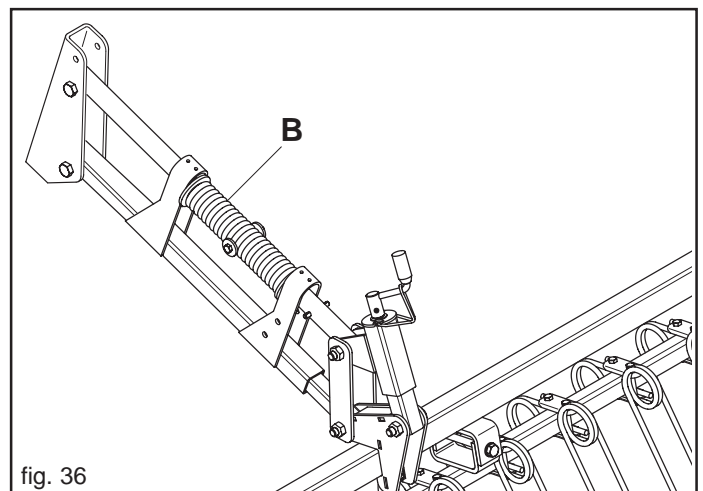

fig. 36
The working pressure of the spring-loaded teeth can be varied by rotating the spring (B) located on the upper parallel arm (Fig. 36).